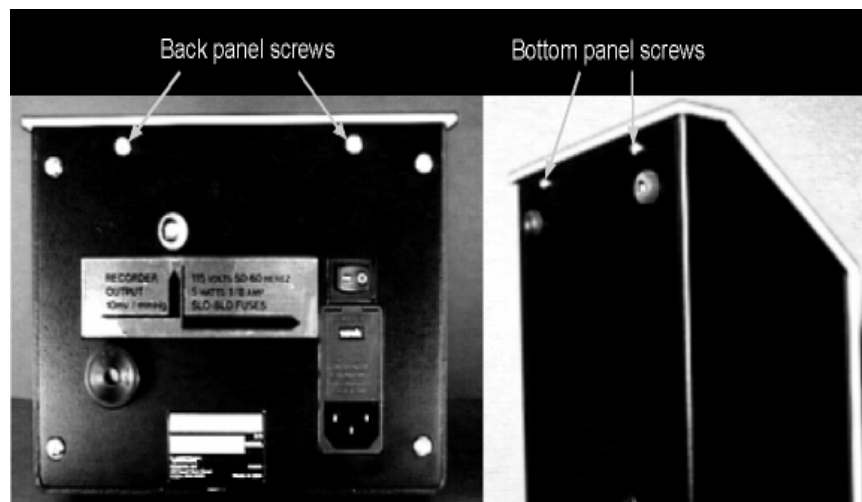

Figure B-1 *The four screws to be removed after disconnecting the 4420 from line power*
Two 3-volt lithium batteries are mounted on the main circuit board, on the left side of the instrument (behind the display). They provide back-up power to the microprocessor's RAM to maintain the stored calibration data, language selection, units, and zero offset in the event the external AC power is interrupted. Thus, recalibration is not required whenever the instrument is disconnected from line power. The batteries will normally last about five years. When the batteries fail, the osmometer's display will indicate **BATTERY FAILURE**. Replacement batteries are available from Wescor under catalog number RP-131 (two required). You may also use any convenient source for Eveready CR-2025 or direct replacement. To replace the batteries, use the following instructions, referring to Figures B-1, B-2, B-3, and B-4.
1. Switch the rear-panel power switch off (O), then disconnect line power by removing the power plug from the rear panel.
2. Wait at least 30 seconds to allow the power supply's filter capacitors to discharge, then remove the two screws from the bottom-front and the two screws from the rear-top of the instrument (see Figure B-1).